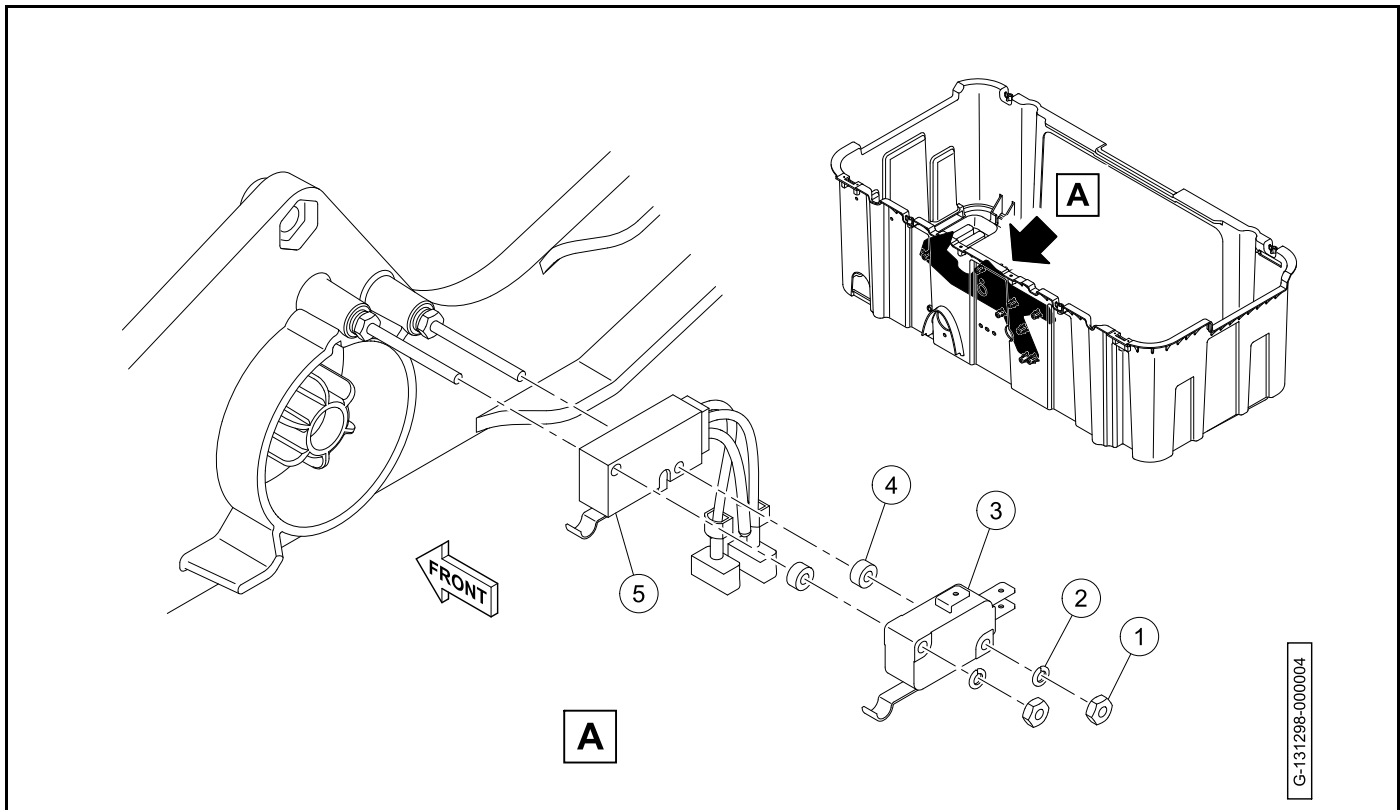

Figure 20-25 Multi-purpose Buzzer Limit Switch
3. Remove the nuts (1) and washers (2) (**Figure 20-25, Page 20-24**).
4. Remove the neutral lockout limit switch (3) and washers (4).
5. Remove the multi-purpose buzzer limit switch (5).
1. Install the multi-purpose buzzer limit switch (5) on the two bolts (Figure 20-25, Page 20-24).
2. Install washers (4) and neutral lockout limit switch (3).